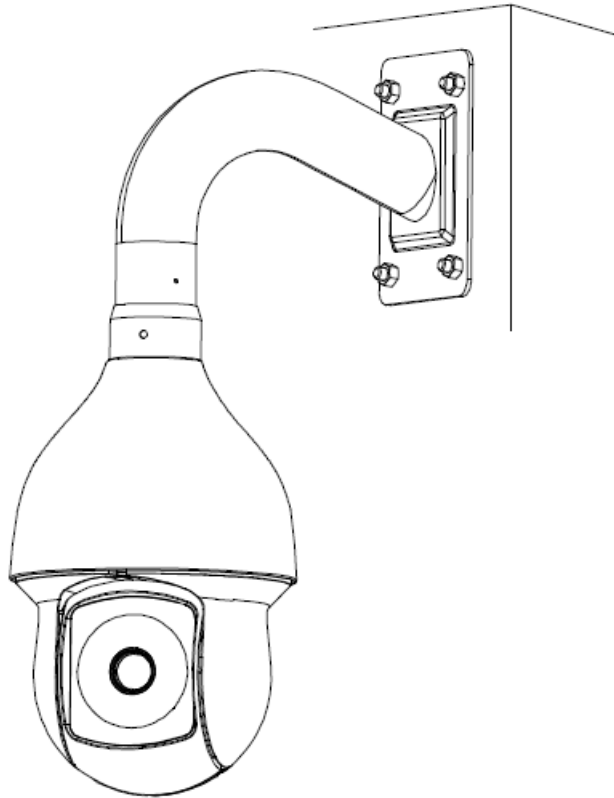

Figure 3-4
4) Now the installation is completed. See Figure 3-4.